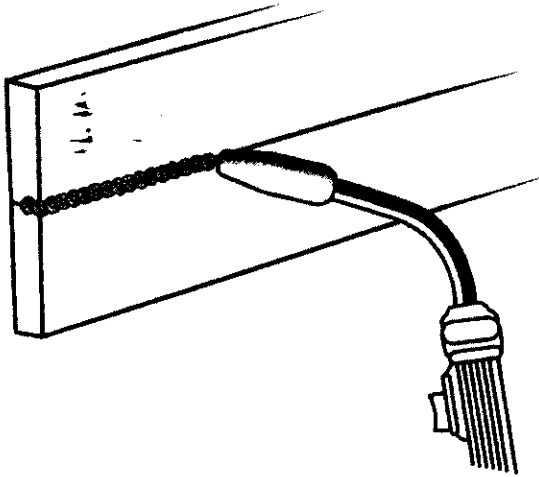

Figure 15. Horizontal Position
- 2. The HORIZONTAL POSITION** (Figure 15) is next in difficulty level. It is performed very much the same as the flat weld except that